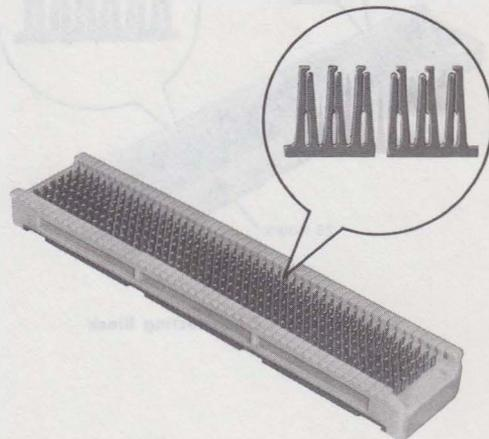

Fig. 1—66B3-50 Connecting Block
1.01 The 66-type connecting blocks (Fig. 1 through 9) consist of multiple terminal connectors inserted in molded plastic blocks and held in place by retaining plates.